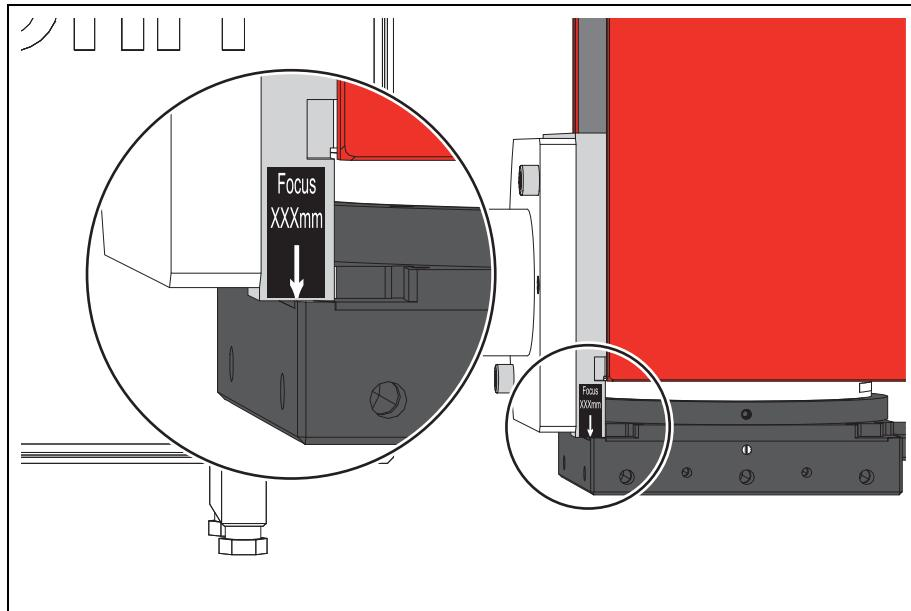

Figure 6.19 Measure the focal distance
2. Read off focus distance on the reference point (see figure 6.19).